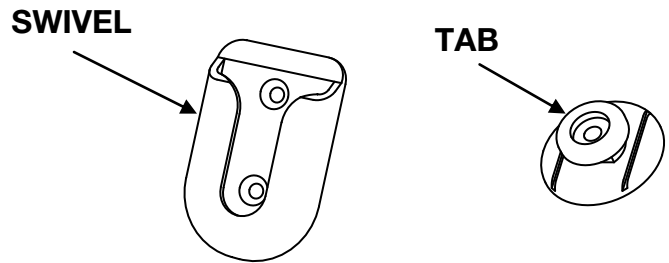

Figure 7. SmartTouch™ Mounting Hardware G10311
3. Attach Mounting Bracket (25A two styles included) to the vehicle using two 1/4"-20 x 3/4" Hex Head Cap Screws (25B) and two 1/4"-20 Self Locking Nuts (25C) as shown in Figure 7.
4. Install plug end of Vehicle Side Power/Ground Cable (16) on to the Control Harness Mounting Bracket (25A) using the two Power/Ground Cable Mounting Brackets (24A), two 1/4"-20 x 1-3/4" Hex Head Cap Screws (24B), and two 1/4"-20 Self-Locking Nuts (24C). Attach lanyard of Power/Ground Dust Cap (23A) to lower Hex Head Cap Screw (24B) as shown in Figure 7.
5. Install the Vehicle Side Control Harness Dust Cap (22A) on to the large plug end of the Vehicle Side Wiring Harness (17) and insert the harness in to the Control Harness Mounting Bracket (25A).
6. Route the Vehicle Side Wiring Harness (17) and Vehicle Side Power/Ground Cable (16) together upward and along the vehicle frame toward the vehicle battery and Control connector. Secure wiring using supplied cable ties. Mount Control connector using supplied dash bracket and hardware on UTV applications.